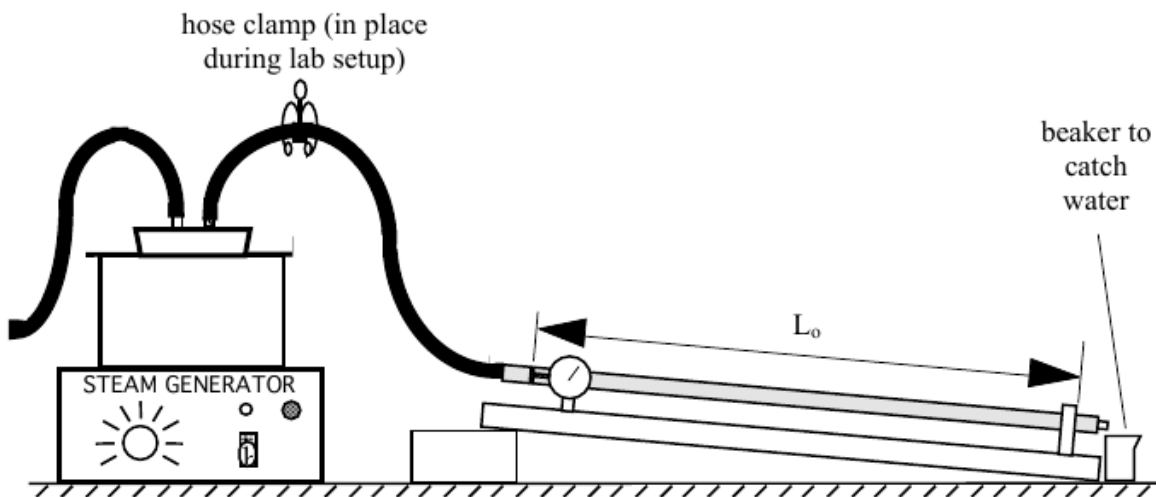

Figure 1
In this lab, you will determine the coefficient of expansion for copper, steel (iron), and aluminum. A diagram of the lab setup is shown in Figure 1. Steam will be passed through each tube, raising its temperature and causing it to expand. A dial gauge will measure the change in tube length. As the tube expands, the gauge indicator rotates, showing ΔL in hundredths of mm.
2. Assemble the linear expansion apparatus as shown in Figure 1. Measure and record the original (low) temperature of the tube using a thermocouple probe. Record your value in Table 1.
3. Measure the lengths of the tube at low temperature and record in Table 1. **Note:** while the entire length of the tube will expand, the dial gauge only records the expansion of the part of the tube between the pin supports and the end of the dial gauge. Use this length for L_0 , as shown in Figure 1.